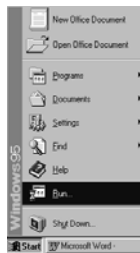

Fig. 3.1
3. The CD-ROM will autolaunch on most systems. However, if your system does not support autolaunching CD-ROMs, press the Start button, choose RUN, type `d:\driver\setup.exe` (d: the CD-ROM drive in use), and then click OK. (See Figure 3-1,3-2)